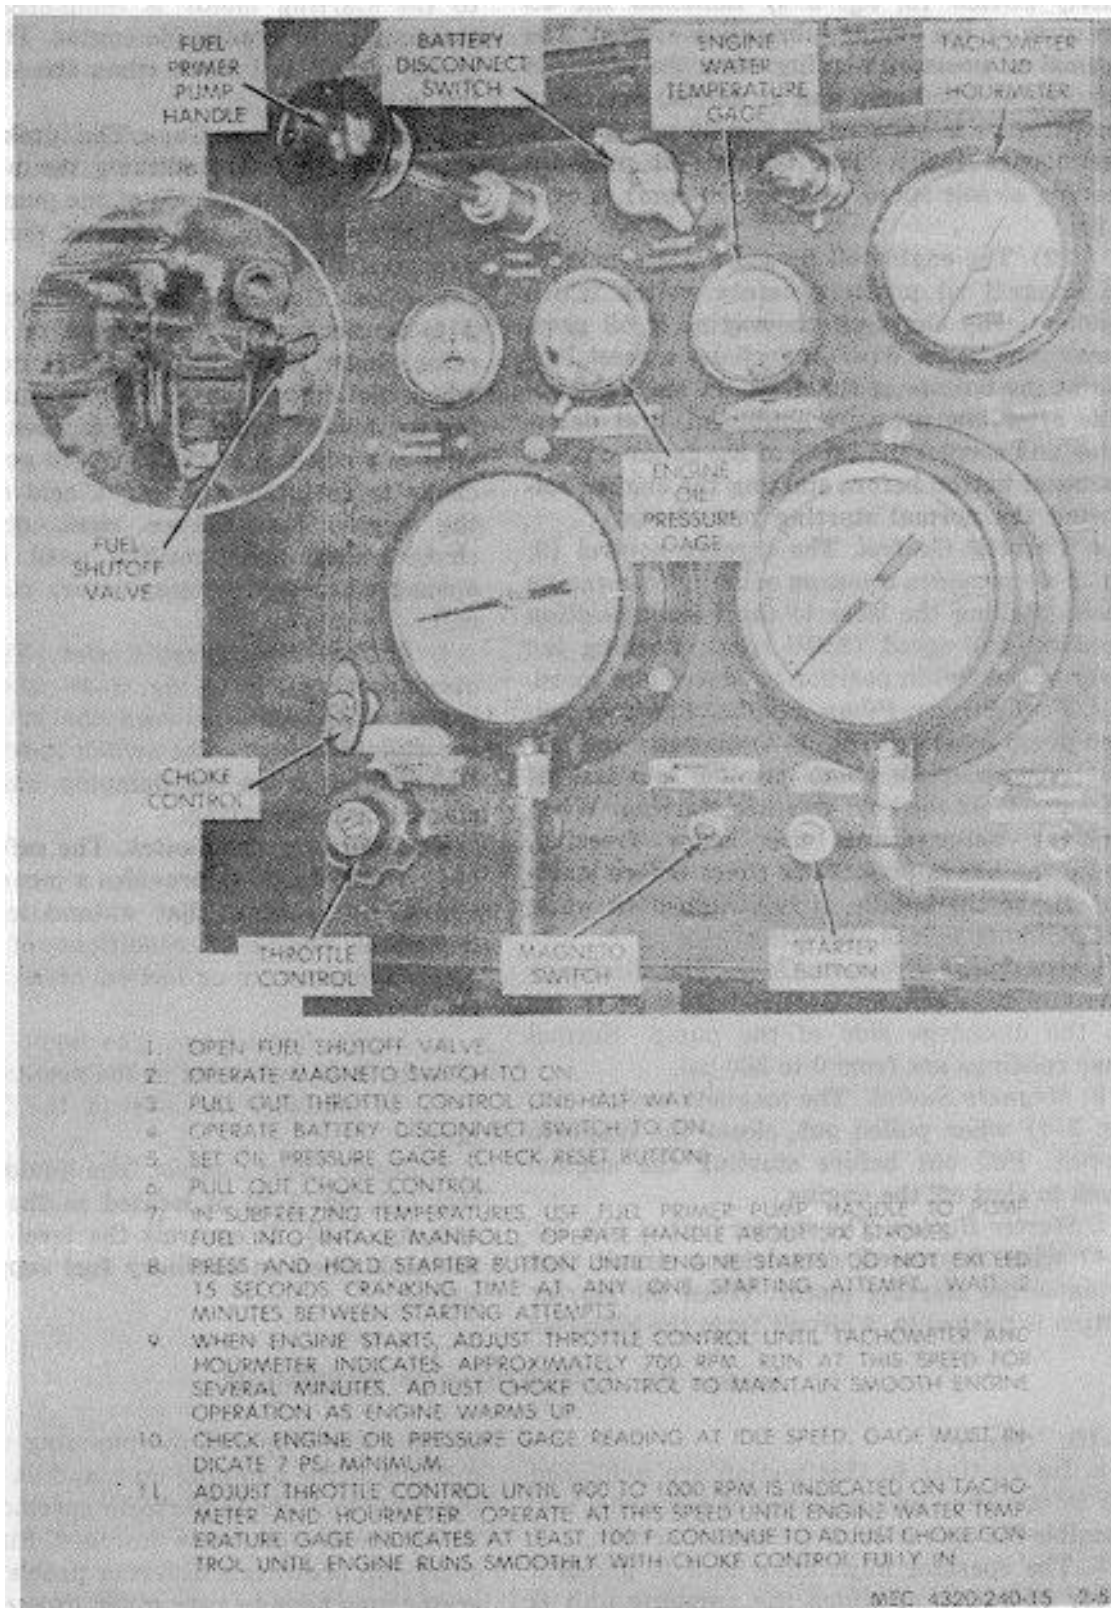

Figure 2-5. Starting procedure.
b. *Starting.* Refer to figure 2-5 and start the engine.